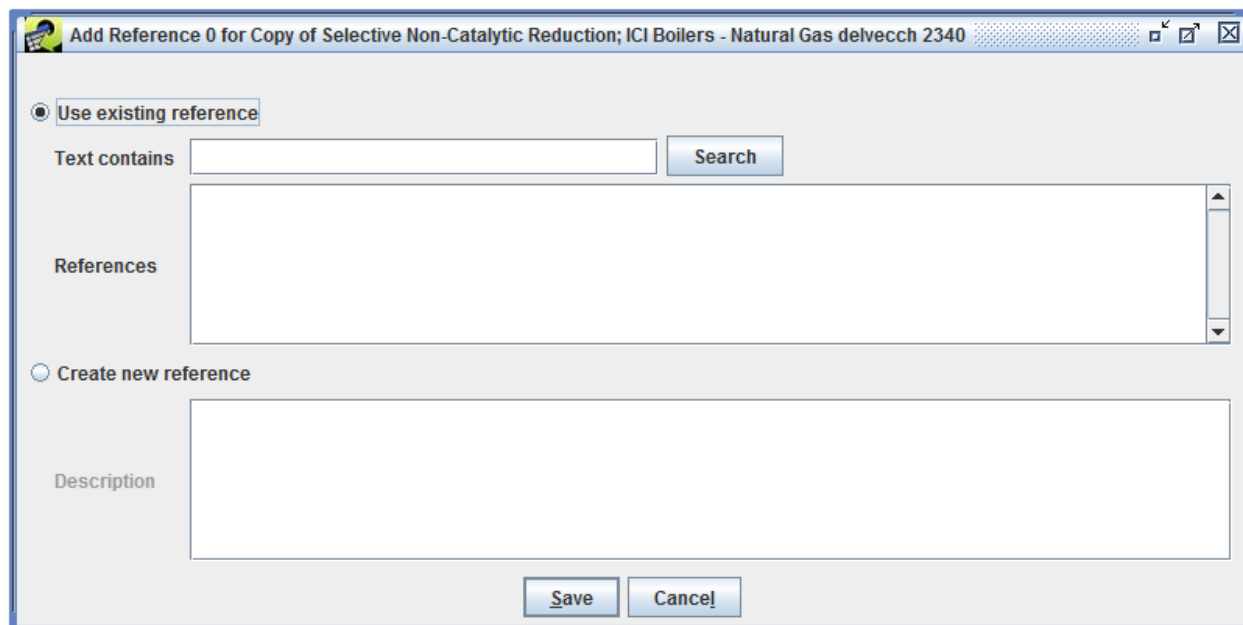

Figure 3.27: Add Reference Record Window
**Step 4-19: Adding Control Measure References.** To add a new reference for a control measure, click **Add** in the **References** tab, and the **Add Reference Record** window will appear (Figure 3.27). Either choose a reference that already exists in the database, or add a new reference.